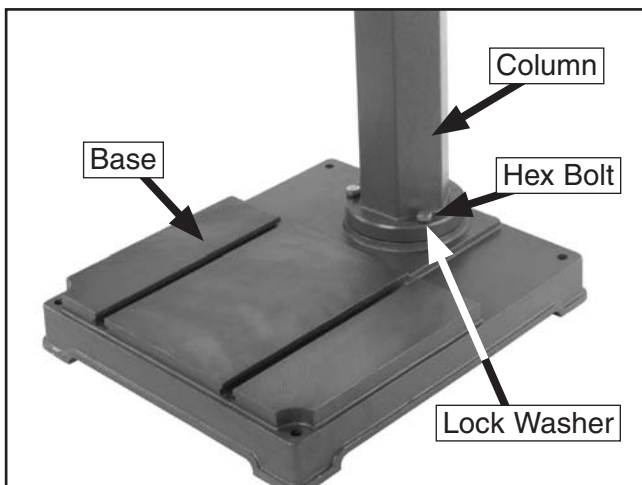

Figure 8. Mounting the column.
2. Secure the column to the base with hex bolts and lock washers, as shown in **Figure 8**.